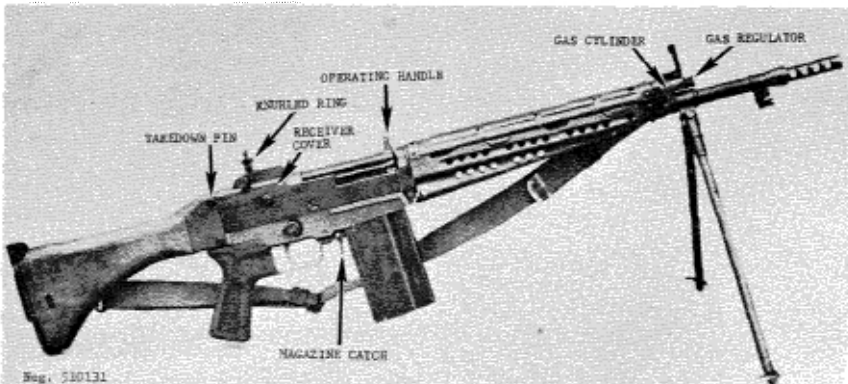

Figure 132. Japanese Type 64 rifle.
a. The 7.62-mm Type 64 rifle (fig 132) was developed in Japan. It is the standard rifle of the Japanese Ground Self-Defense Force but is used by no other country.
b. The gas regulator (fig 132) has three settings. The lower is used for firing full-powered 7.62-mm NATO cartridges; the mid setting is used for firing violet-tipped Japanese reduced-power cartridges, or to give increased power when firing 7.62 NATO cartridges in a fouled rifle. The upper setting is used when firing violet-tipped cartridges in a fouled rifle. Set the regulator by rotating it as necessary.
c. Adjust the rear sight for range by twisting the knurled ring on the rear sight (fig 132). Windage corrections can be made by rotating the windage knob.
d. Pull the operating handle (fig 132) fully rearward and release it. **CAUTION:** The rifle is now loaded and ready to fire. Pull out the selector and rotate it to the position desired (rearward
e. To unload or clear the Type 64, rotate the selector to its vertical or safe position, press the magazine catch (fig 132) toward the magazine and rock the magazine forward, out of the rifle. Pull the operating handle to the rear and inspect to insure that no cartridges are present. Release the operating handle, rotate the selector off safe, press the trigger and move the selector back on safe. Insert the magazine. If desired, fold the sights and bipod.
b. Pull the takedown pin (fig 132) to the right, then lift up the rear end of the receiver cover (fig 132) until the cover comes off. Pull the driving spring out of the bolt carrier, then pull the carrier (fig 132) to the rear until it can be lifted out of the receiver. Lift the bolt out of the receiver.
a. The Type 64 rifle is gas operated. When the weapon is fired, some of the propellant gases are tapped off through the gas port as the bullet passes the port and enters the gas cylinder (fig 132). The gases drive the piston rearward, and the rear end of the piston strikes the bolt carrier and drives it rearward. The piston's spring has been compressed and now returns the piston forward.